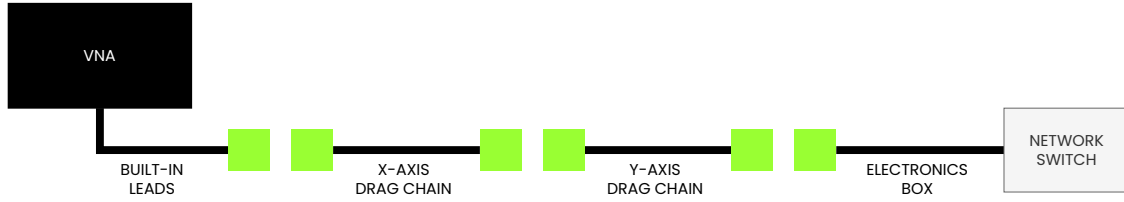

Figure 49: Cabling stages for the VNA data.
The cabling for the VNA data consists of providing it with an Ethernet connection from the network switch to the instrument. The cabling should be done in such a way that its parts are located in the different major components. Figure 49 presents the cabling stages for the VNA data. A total of four (4) RJ-45 connectors and 4350 millimeters of Ethernet cable are needed in order to execute the VNA data cabling. Table 9 presents the procedure for cabling the VNA data.